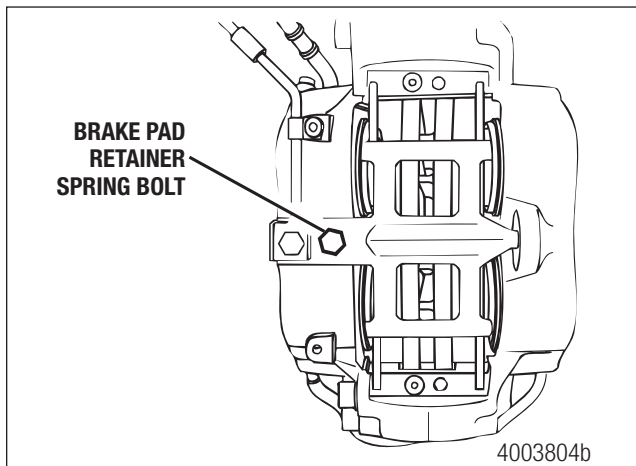

Figure 4.2
6. Remove the pad retainer spring bolt. Figure 4.2.